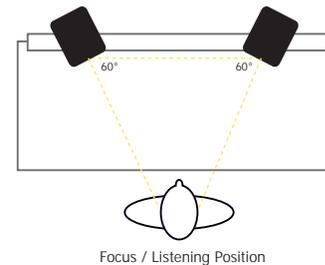

Figure 3
- *Near-Field Configuration* – In a control room situation, the monitors are often times placed on the meter bridge or in a close-field listening position. Initial placement starts by measuring out a simple equilateral triangle (all three sides equal in length) with the apex at the center of the listening position as an "overlay" for the stereo installation. In this configuration, the Left and Right monitors are each placed at a  $60^\circ$  angle, equidistant from the listening position. (Figure 3)